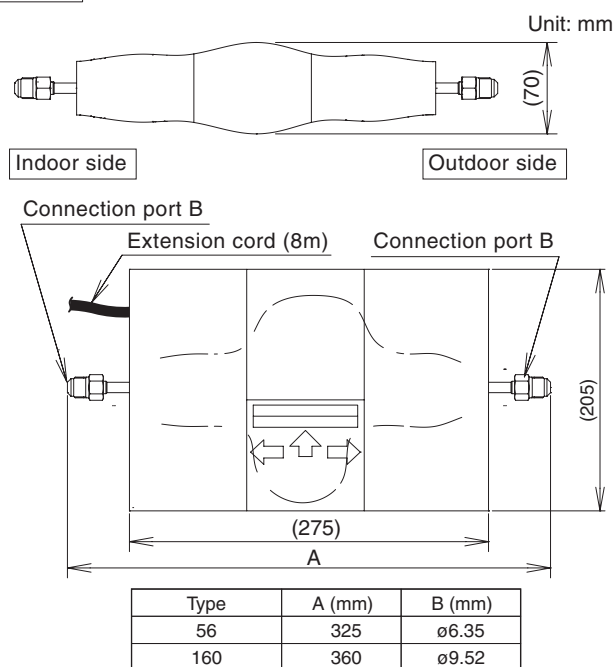

Fig. 2-315 Diagram of outer dimensions
- The valve should be connected to the liquid tube. Determine the position for installation referring to the diagram of outer dimensions. (Fig. 2-315) Refrigerant-flow noise may occur from the external electronic expansion valve. As a guide, the distance from the indoor unit should be a minimum of 5 m, but less than 8 m. (Install away from locations where strictly quiet operation is required.) If this distance is unavailable, install inside the ceiling or in another location where noise insulation is possible. This is a functional component, and therefore may require inspection and replacement. Consider this when deciding the installation location. (For example, place near an inspection port, or provide one.)